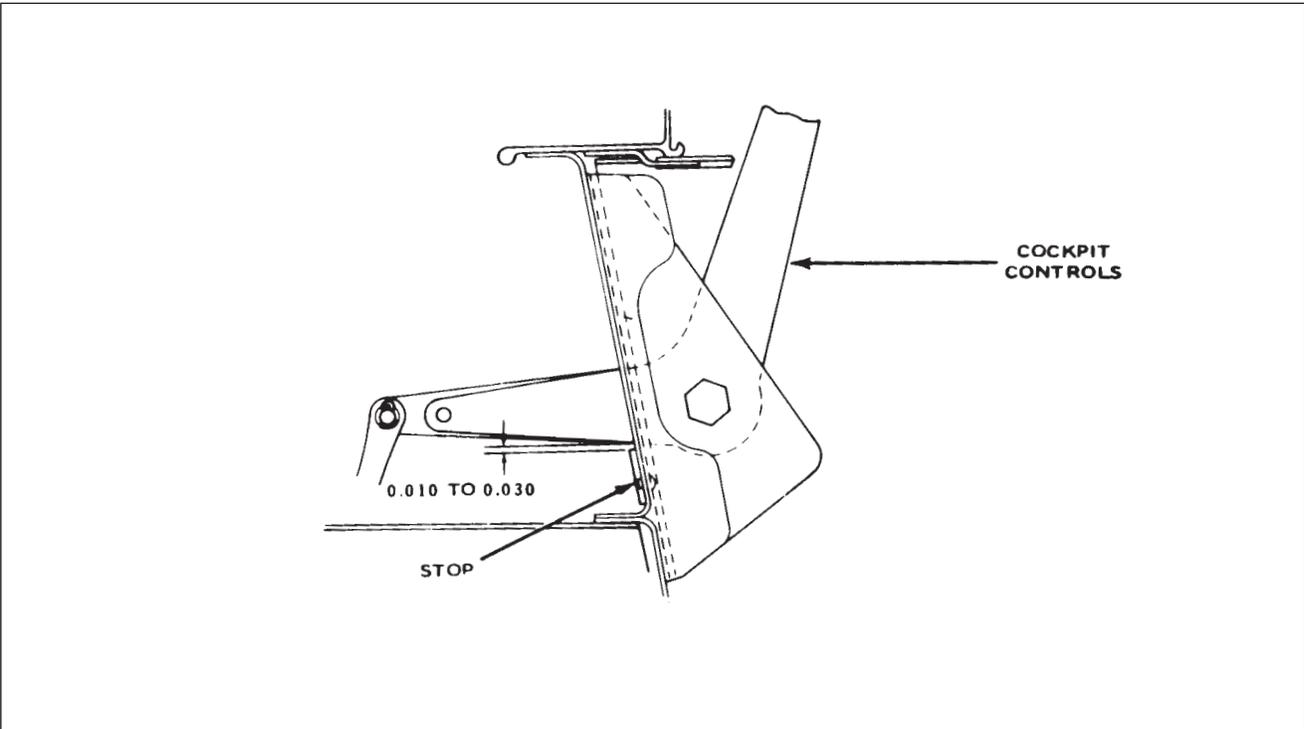

Figure 73-10. Adjustment of Engine Controls
**ADJUSTMENT OF THROTTLE AND MIXTURE CONTROLS.** (Refer to Figure 73-10.)